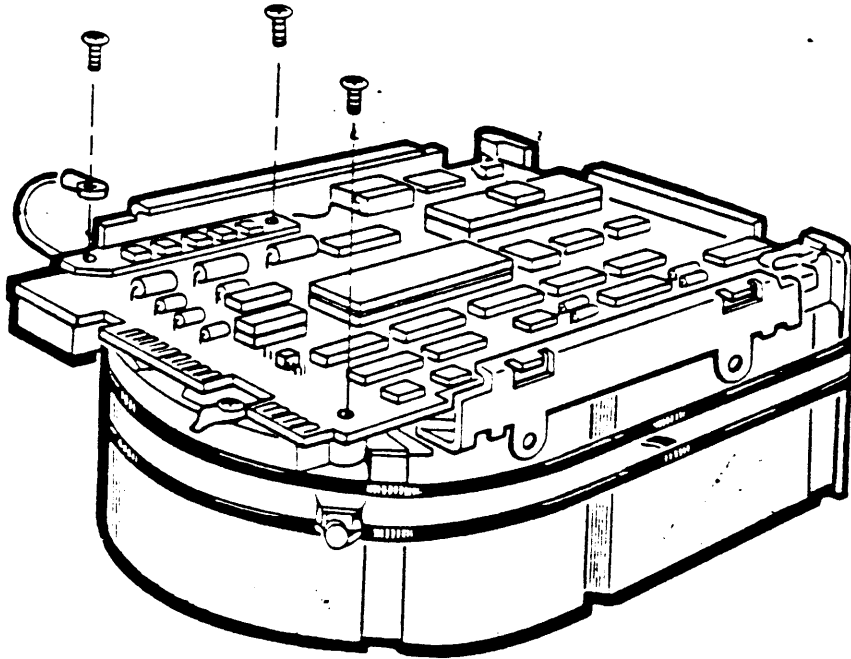

Figure 8-14 Remove Phillips Screws from Heatsink
5. Remove the three Phillips screws from the heatsink, grounding strip, and the corner opposite the heatsink (Figure 8-14).